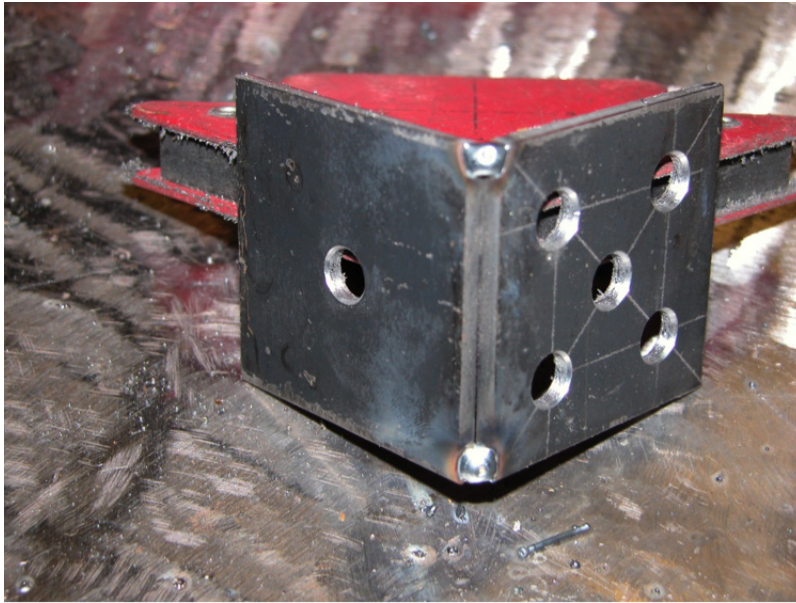

Figure 15
3. Tack pieces #4 and #5 together in an L shape using the MIG welder (Figure 15).